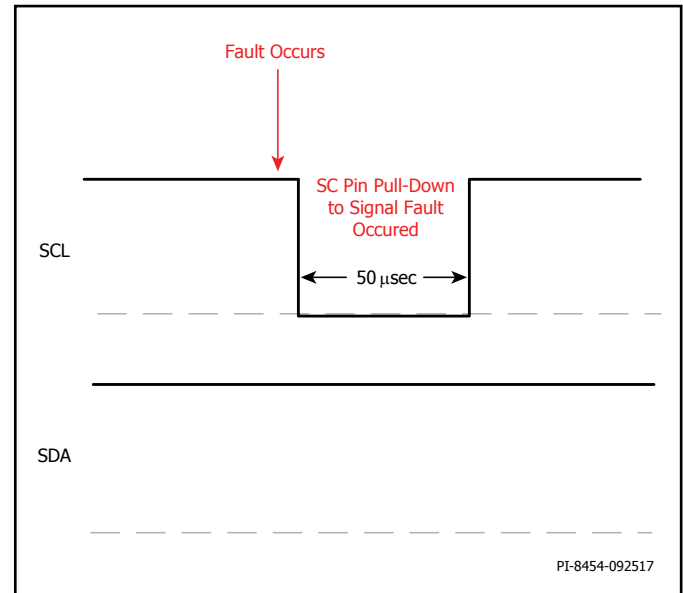

Figure 19. Interrupt Mask During Idle I²C.
1. When the SCL pin is in idle mode (see Figure 19), the fault interrupt will happen as soon as the fault is detected. The interrupt pulls down the SCL pin for 50 μsec then releases it back to HI State.